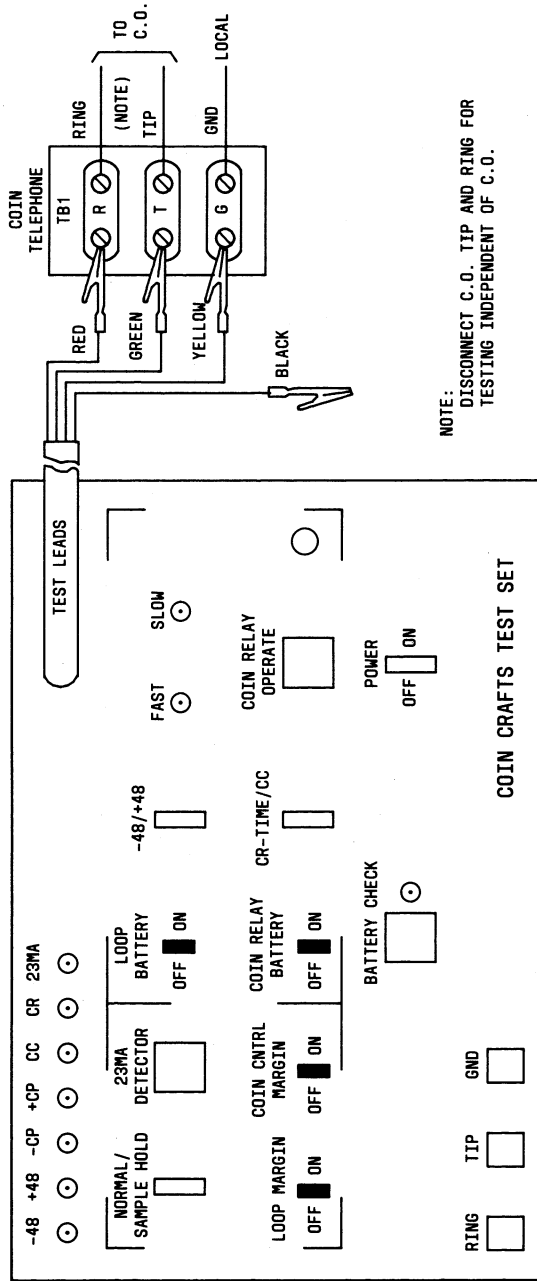

Fig. 2—Test Lead Set-up for All Tests Except Coin Relay Timing
- (1) **23MA Test**—The 23MA current detector circuit simulates a 350-ohm load to the CO and will light a LED indicating when a current of 23MA or greater is flowing in the loop. This represents a worst case telephone set resistance which could be encountered in the field.
- (b) Connect test set leads to TB-1 of coin telephone set per Fig. 2:
- (b) Connect test set leads per Fig. 2 and take coin telephone handset off-hook:
- (3) **Coin Control Margin Test**—The coin control margin test checks for marginal conditions on the tip to ground coin control path. A failure on this test indicates a borderline circuit resistance and the telephone set may experience erratic trouble or failures.
- (b) Connect test set leads per Fig. 2 and take telephone handset off-hook:
- (4) **Foreign EMF Test**—This is a special use test where the test desk may not be available but you do have access to service on the CO main distributing frame. It will show if there is induced or crossed battery and ground on the pair but will not indicate trouble on individual conductors.
- (b) Connect test set leads per Fig. 2:
**3.04 The CO Sequence Test:** Tests the interaction between the coin telephone set and the CO equipment. During these tests, LEDs other than those shown may light. These others may be ignored. Prepare coin telephone set as follows and proceed as in (1) or (2).
- Connect test set leads to TB-1 of coin telephone set per Fig. 2.